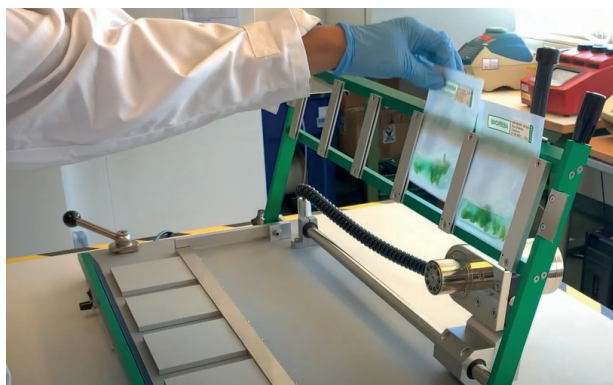

Fig. 2
- Insert up to 5 extraction bags in the open rack (see Fig. 2).